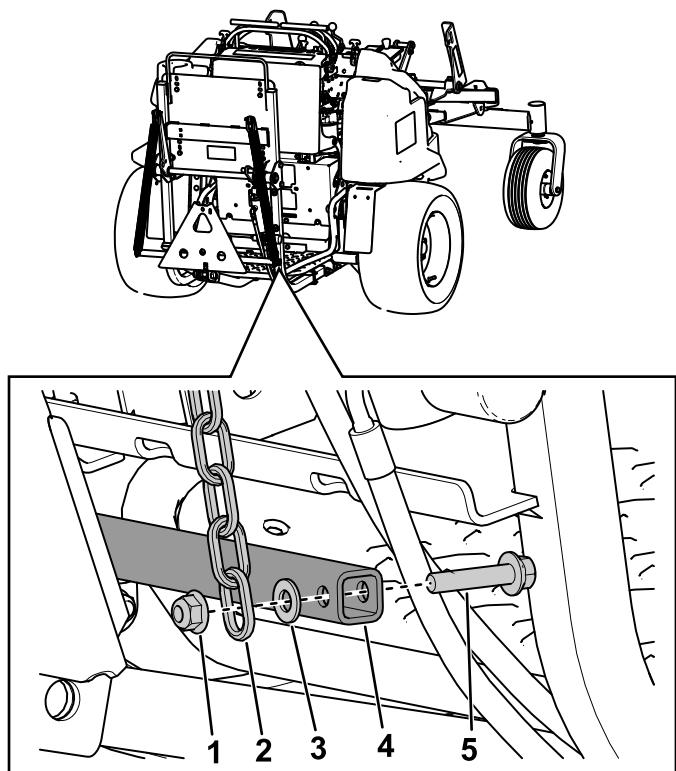

Figure 10
2. Connect the bottom of the long rear-lift chains to the hanger tube at the bottom of the lift frame using flange-head bolts (3/8 x 1-3/4 inches), washers (2/5 inch), and flange locknuts (3/8 inches) as shown in Figure 10.